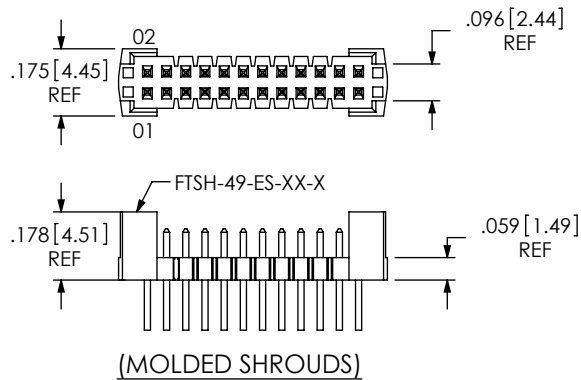

FIG 3
- EJ: EJECTOR SHROUDS: (SEE FIG 3, SHT 2)